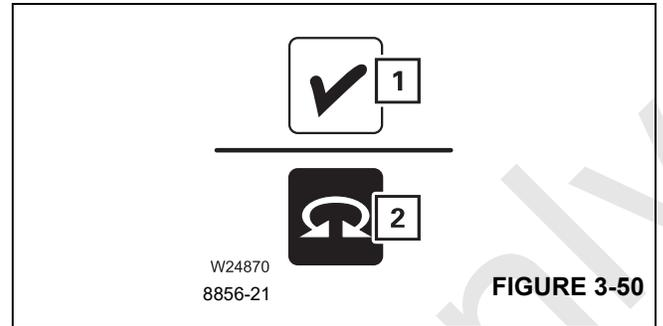

FIGURE 3-50
Regardless of whether the background (1), (Figure 3-50) of a symbol is red or whether only parts (2), (Figure 3-50) of a symbol are red. This applies to all symbols and all colors.